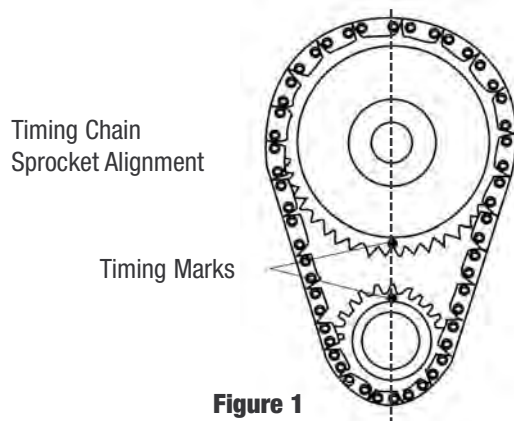

Figure 1
13. Rotate engine until timing marks are aligned as shown in Figure 1.
Install camshaft with timing marks lined up as recommended by factory specifications. See Figure 1.
High performance pushrods and rocker arms and studs are recommended for this installation. After the cam is installed and timed correctly (see Figure 1), it will be necessary to check each pushrod for correct lifter pre-load.